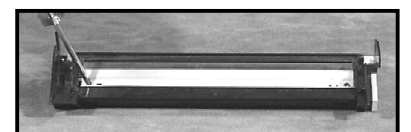

Figure 4
3. Remove the wiper blade from the waste hopper by unscrewing the two screws (fig. 4). Use compressed air to clean out remaining toner from the waste hopper. Clean, inspect and replace wiper blade if necessary (**P/N PFWB20**).